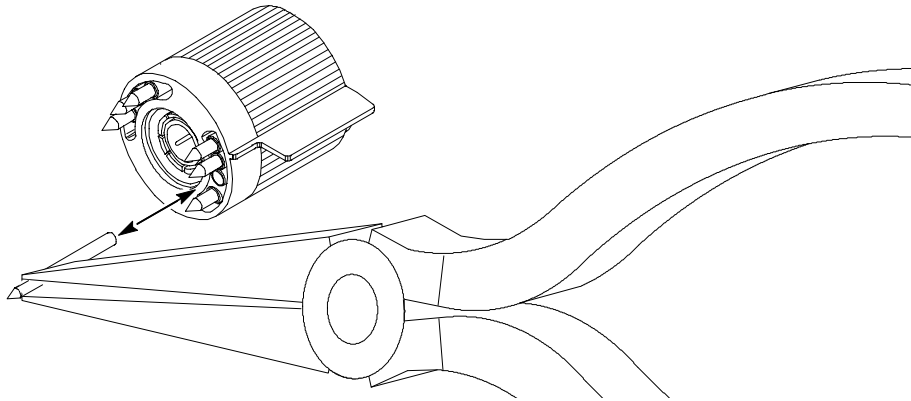

Figure 7: Replacing TEKPROBE interface pins
1. Remove the interface pin with pliers (see Figure 7 on page 16).